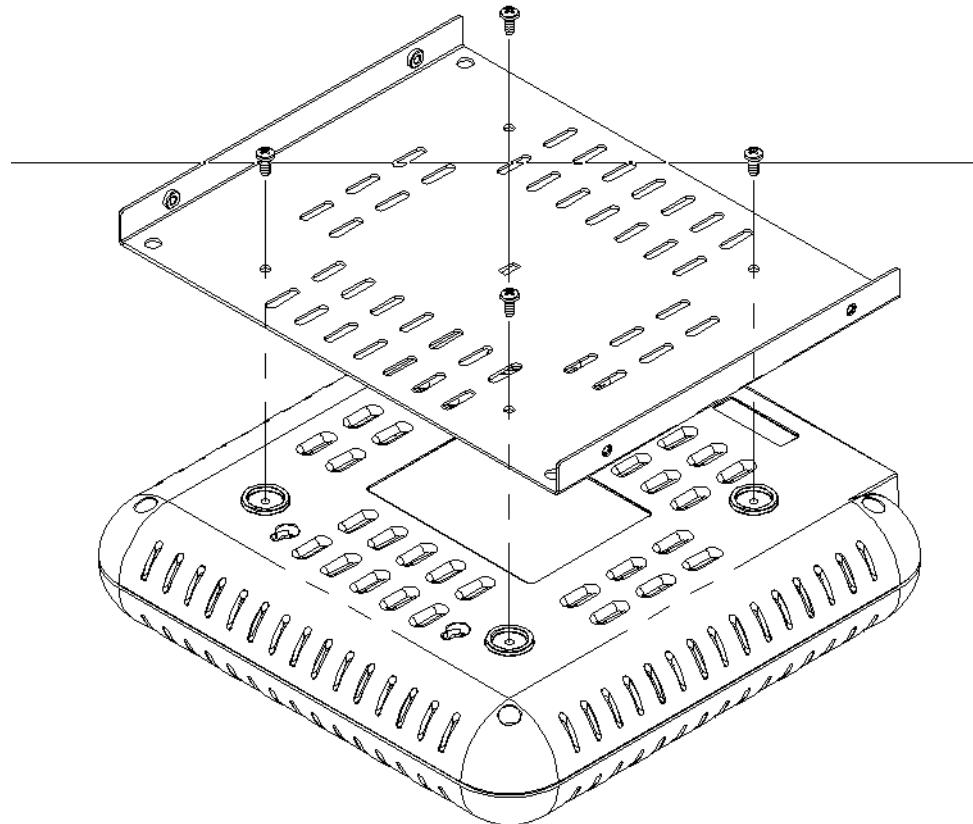

Figure 7: Installing Rear Mounting Plate
2. Fasten the Rear Mounting Plate to the bottom of the BSAP-1800 unit using the 4 #6x5/16" screws provided. Over-tightening of screws will cause stripping of threads formed in plastic (see Figure 7).